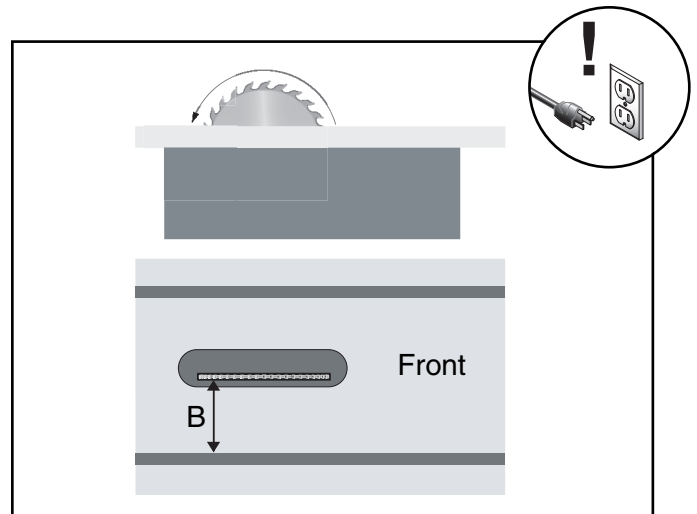

Figure 54. 90° blade parallelism measurement.
4. **Rotate the blade 180°** and measure the distance (B) between the miter slot and the back of the blade as shown in **Figure 54**.